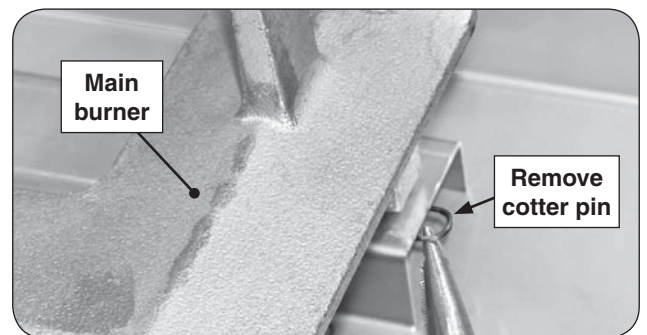

Fig. 40-2 Main burner removal
2. Locate and remove the cotter pin from the left or right rear burner anchoring peg by pulling it straight out of the cotter pin hole using fingers or needle-nose pliers. See Fig. 40-2.